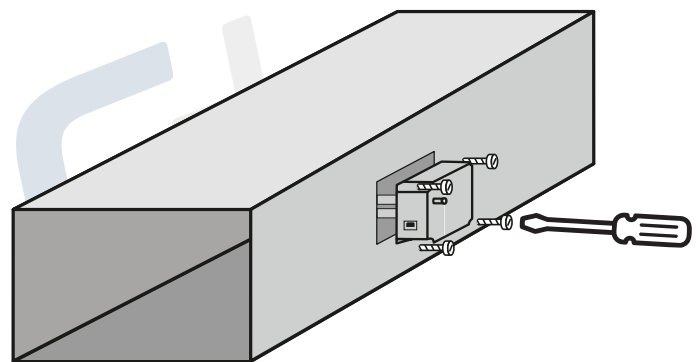

Figure 1
Step 1. The preferred location is in the supply air duct leaving the air handler. Be sure to pick a location before any branch duct take-offs. Verify that there is sufficient duct depth to allow clearance for the tube. C-Tube = 6"(L), D-Tube = 10"(L), E-Tube = 14"(L) (See Figure 1)
c) Screw the model 100 or 200 onto the duct using sheet metal screws (See Figure 1).